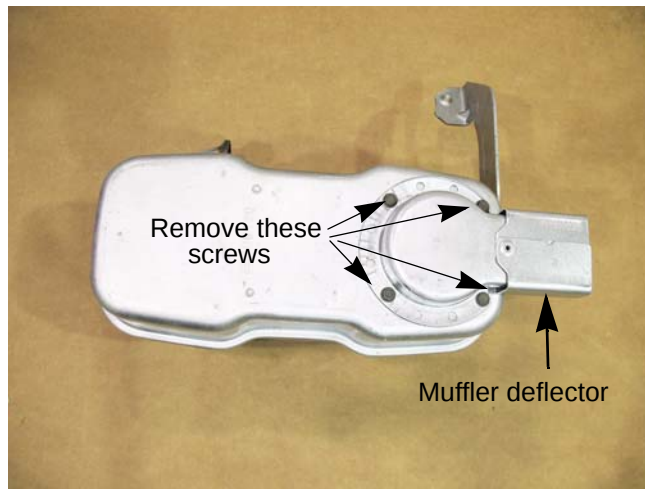

Figure 2.6
6. With the muffler on a work bench, remove the four screws that hold the muffler deflector to the muffler. See Figure 2.6.